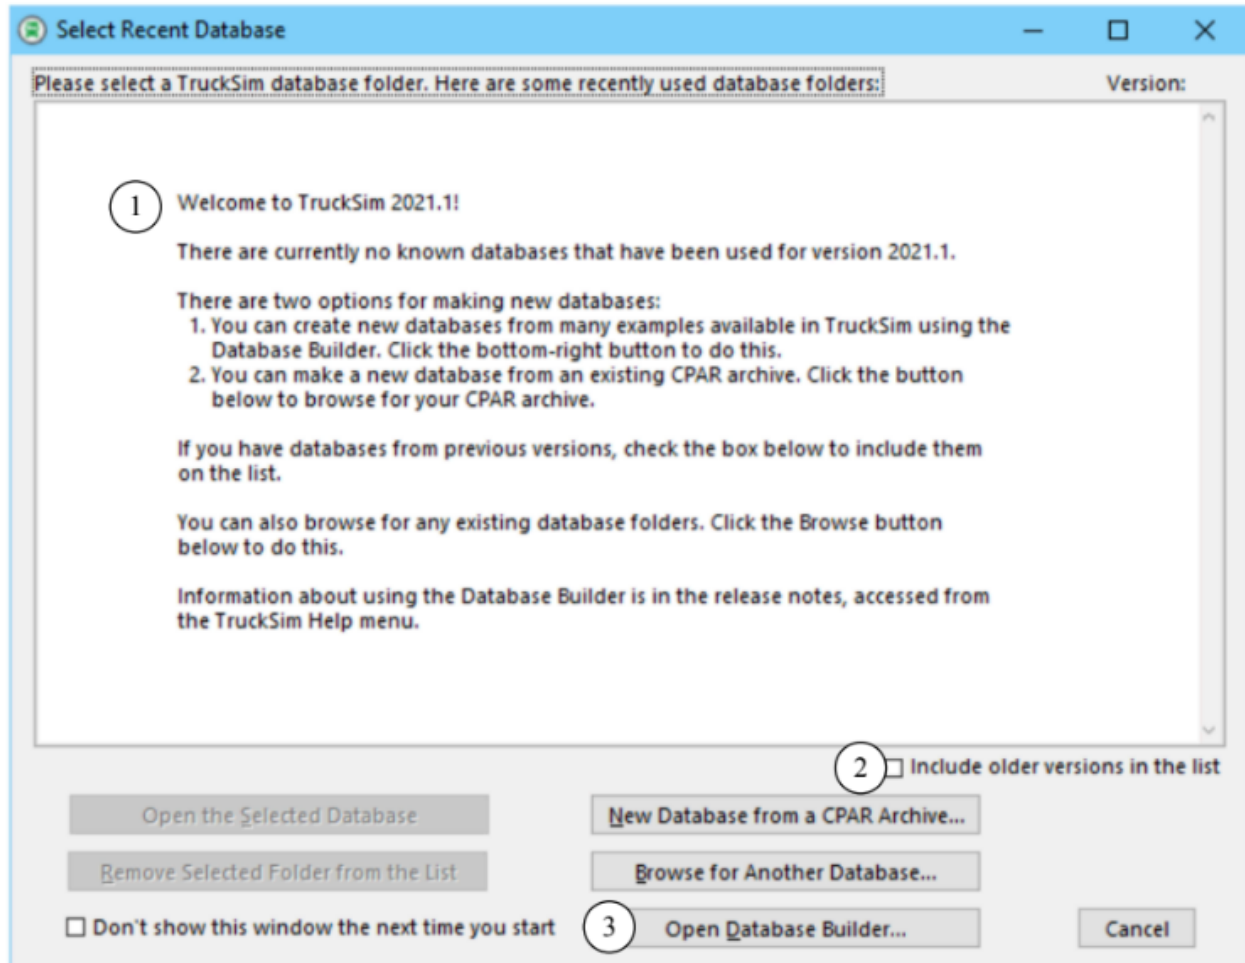
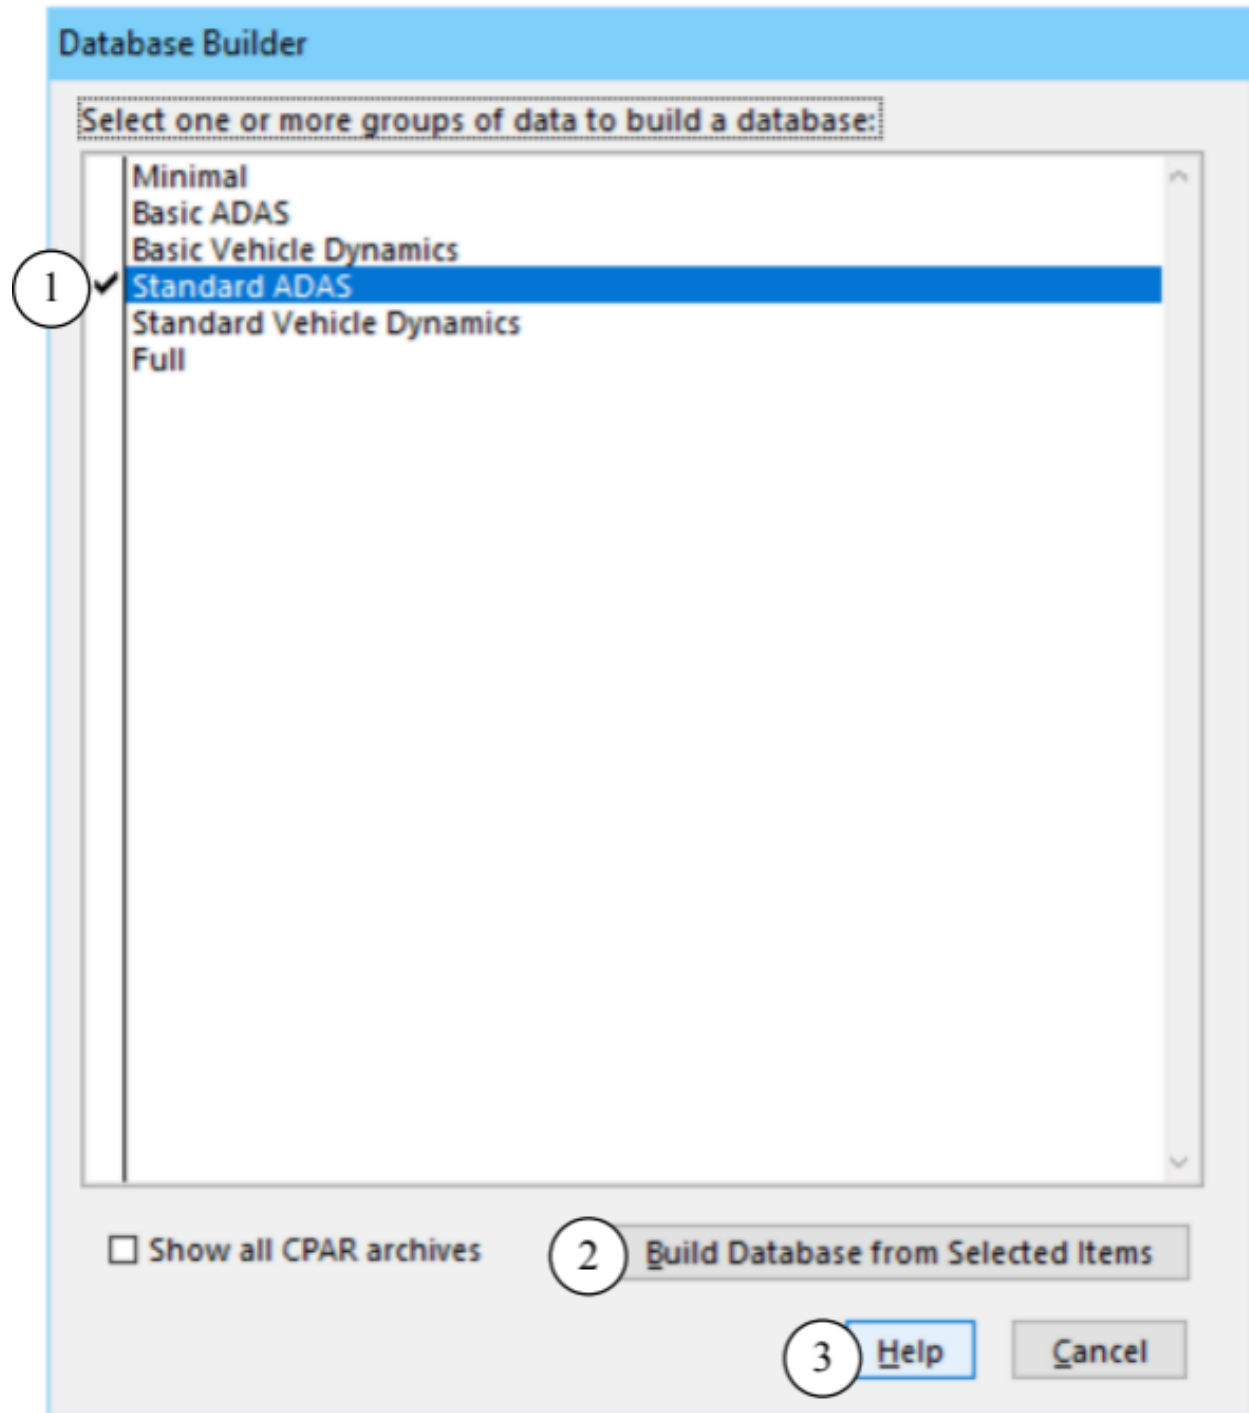

Figure 1. Recent Database window shown when opening a new version of TruckSim.
Figure 2. The database builder window showing only predefined database options.
When opening recent versions of TruckSim, a window appears listing database folders that are known for the current version. This window (Figure 1) has been extended for 2021.1, providing access to a new tool: the Database Builder.
To access examples for 2021.1 when you start TruckSim, click the button **Open Database Builder** ③ (Figure 1) to bring up the Database Builder window (Figure 2). When a group of data is selected ①, the button **Build Database from Selected Items** ② becomes active. The **Help** button ③ opens a PDF document that describes the options. (The Help document is also available from the TruckSim **Help** menu in the **Release Notes** submenu.)
Note Three of the first four options in the **File** menu correspond directly to three of the buttons in the **Select Recent Database** window (Figure 1).